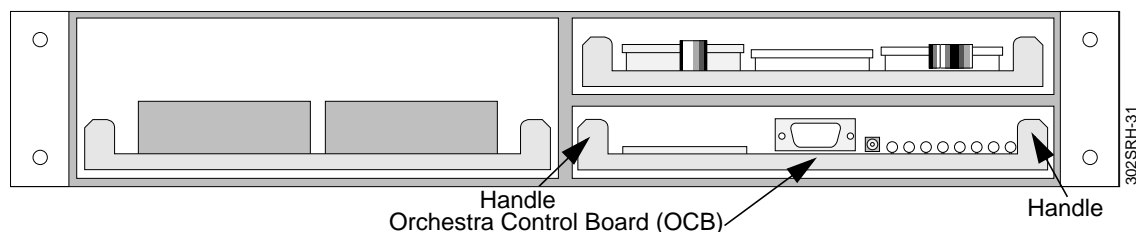

Figure 6-9: Front View of the OCB location in the OCM (Cover Removed)
4. Using the handles located on each side of the OCB, gently pull the OCB out of the chassis (see Figure 6-9).
1. Using the handles on the OCB as guides, slide the OCB into the bottom chassis rails being careful not to damage any of the components (see Figure 6-9).